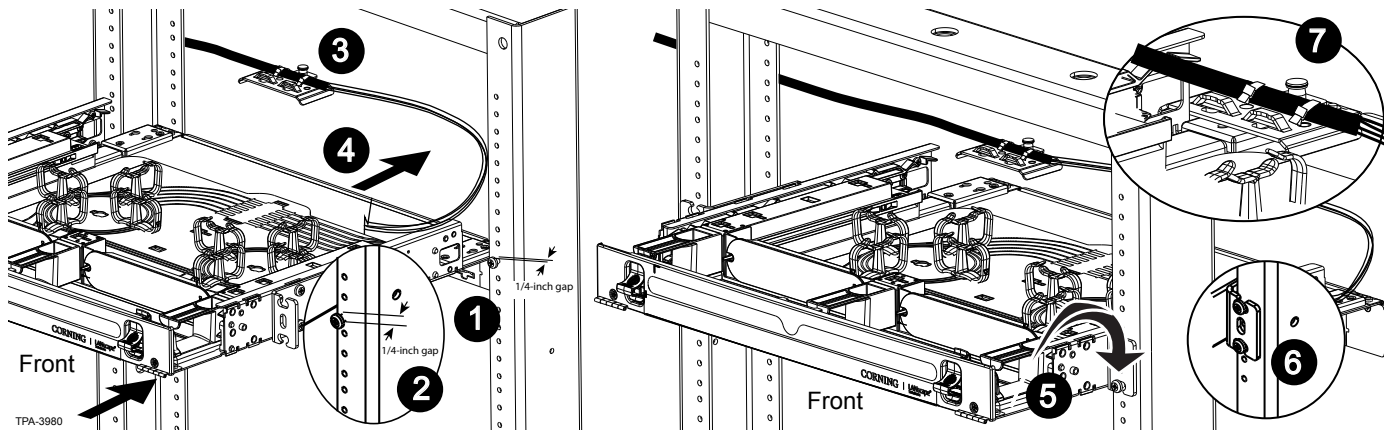

Figure 8
- Step 1:** Identify the rack location where the housing will be mounted (Figure 8).